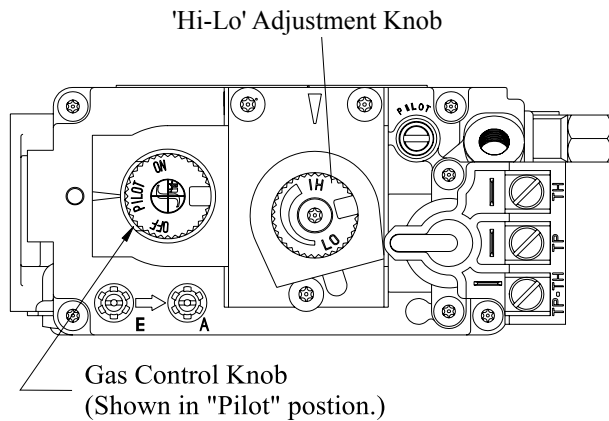

Figure 32. 'Hi-Lo' Adjustment on the L-Series DF's gas valve.
The L-Series DF is equipped with an adjustable burner, allowing you to raise or lower the flames. To adjust the flames, locate the black knob marked 'Hi-Lo', in the centre of the gas control valve (See Figure 32). The front burners are not adjustable.
- An inspection of the gas valve, gas components, and pilot flame. For your convenience a 1/8" manifold pressure tap is supplied on the gas valve for a test gauge connection. See Figure 32.